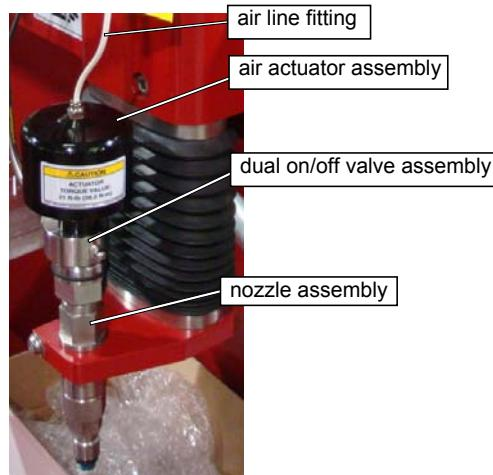

Figure 5-35
Figure 5-35 below illustrates the MAXIEM Dual On/Off Valve:
7. Attach air line to the **air line fitting** on top of the **air actuator assembly**. Refer to Figure 5-35.